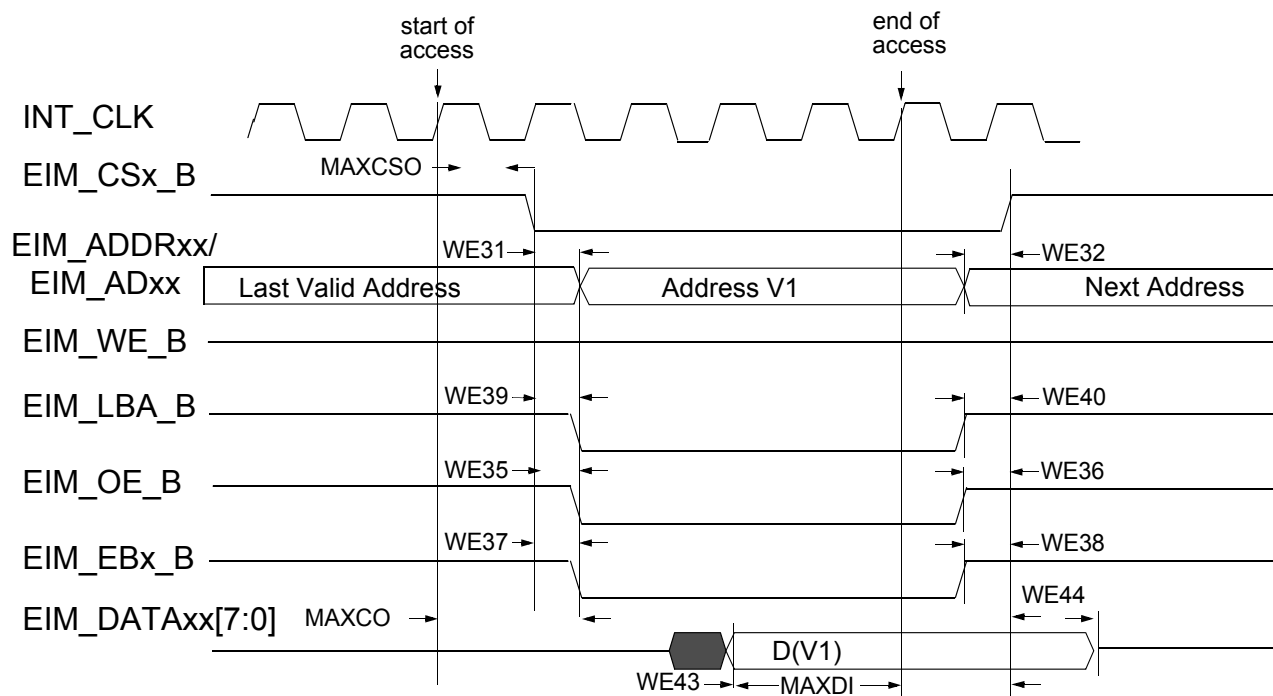
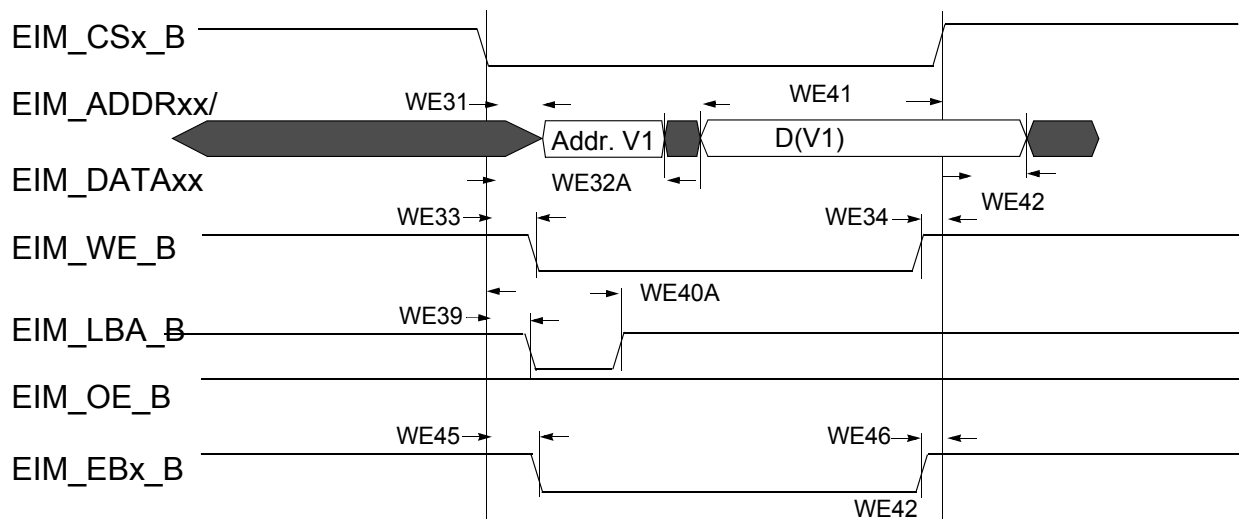
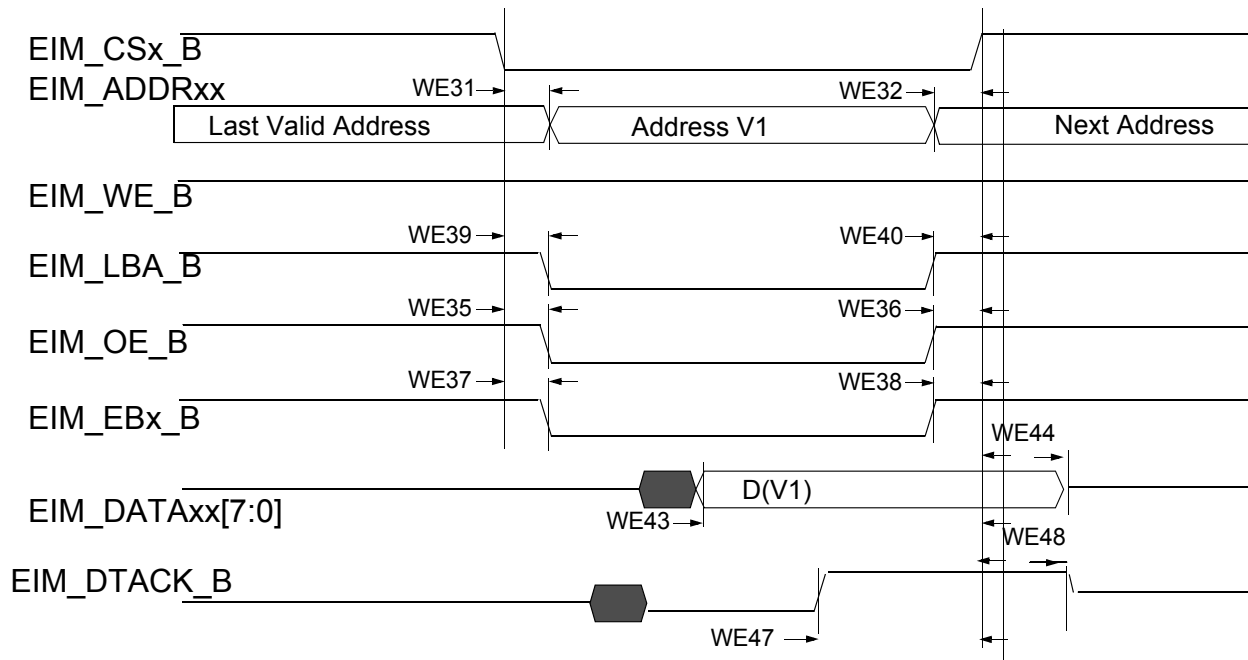

Figure 15. Asynchronous Memory Read Access (RWSC = 5)
Figure 18. Asynchronous A/D Muxed Write Access
Figure 19. DTACK Mode Read Access (DAP=0)
Figure 15 through Figure 19, and Table 39 help to determine timing parameters relative to the chip select (CS) state for asynchronous and DTACK EIM accesses with corresponding EIM bit fields and the timing parameters mentioned above.
Asynchronous read & write access length in cycles may vary from what is shown in Figure 15 through Figure 18 as RWSC, OEN and CSN is configured differently. See the *i.MX 6UltraLite Reference Manual (IMX6ULRM)* for the EIM programming model.